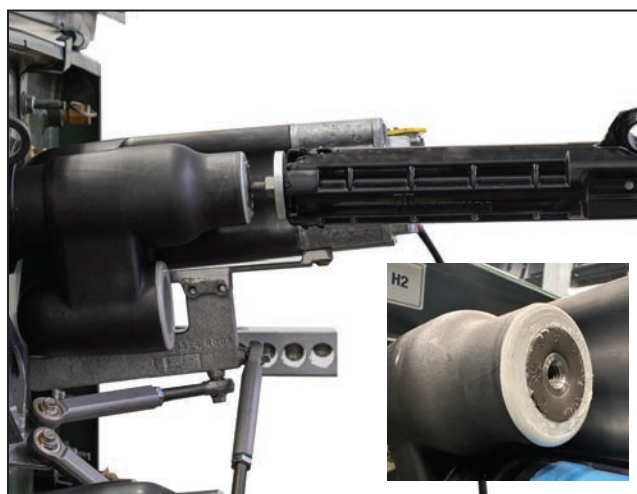

Figure 25. Thread the tool into the plug (inset) and using a shotgun stick or hookstick, pull the plug out of the bushing well interrupter opening.
- STEP 3.** Attach a shotgun stick or a hookstick fitted with a distribution prong to the plug install/removal tool. Pull with significant force to remove the plug. See Figure 25.